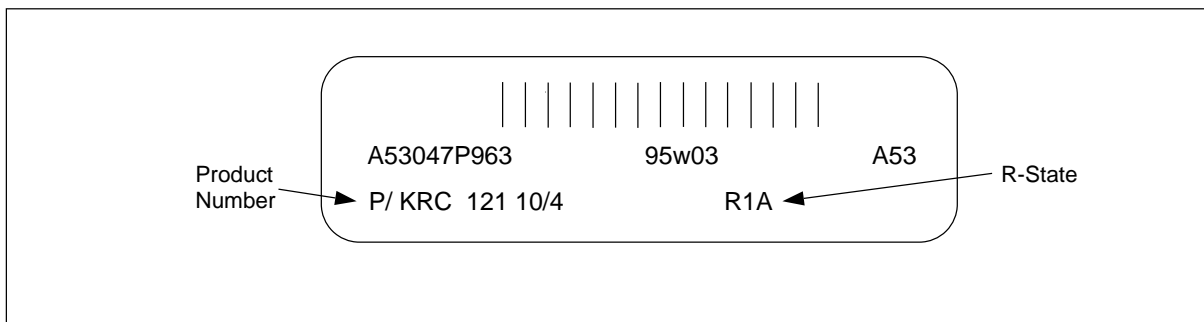

Figure 4-37. Unit Product Label
2. Locate the product labels on all of the units in the cabinets. Each unit has a product label stuck to its front panel, as shown in Figure 4-37 on page 4-53, indicating its product number and revision state.